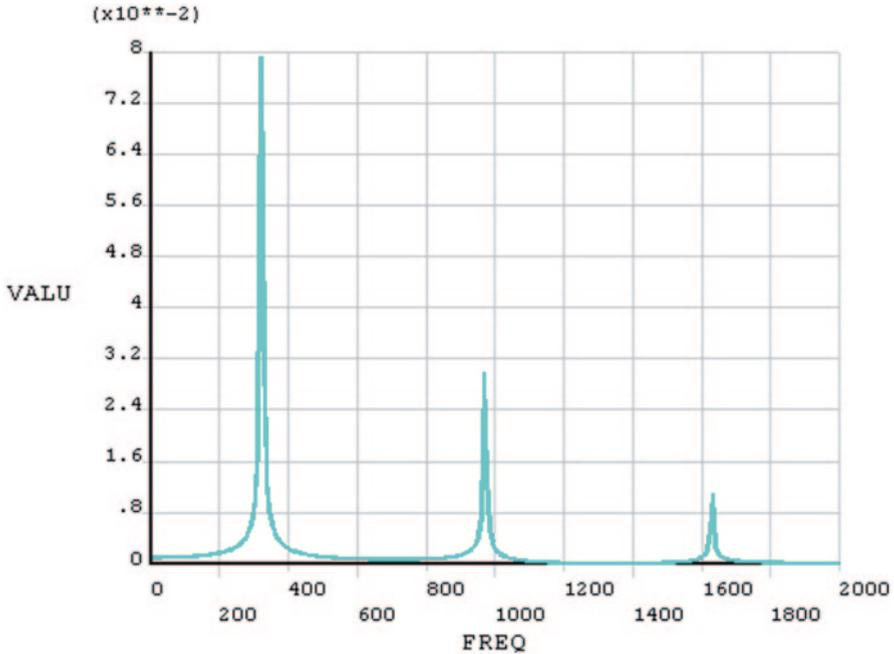

Fig. 8.93 Amplitudes of the displacement at the midpoint node as a function of frequency under harmonic loading
- The plot appears in the *Graphics Window*, as shown in Fig. 8.93.